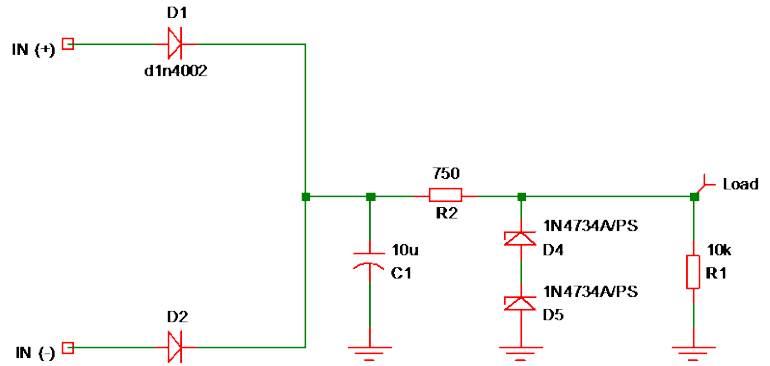

Fig. 4: Zener regulator using two 1N4734A zeners.
- Step 3a: Fig. 4 shows the circuit for testing.